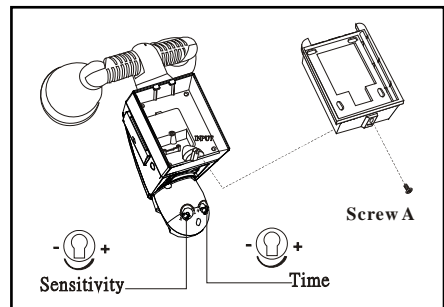

Fig. 8
Step 3. Adjusting the Settings (see fig. 8~9)